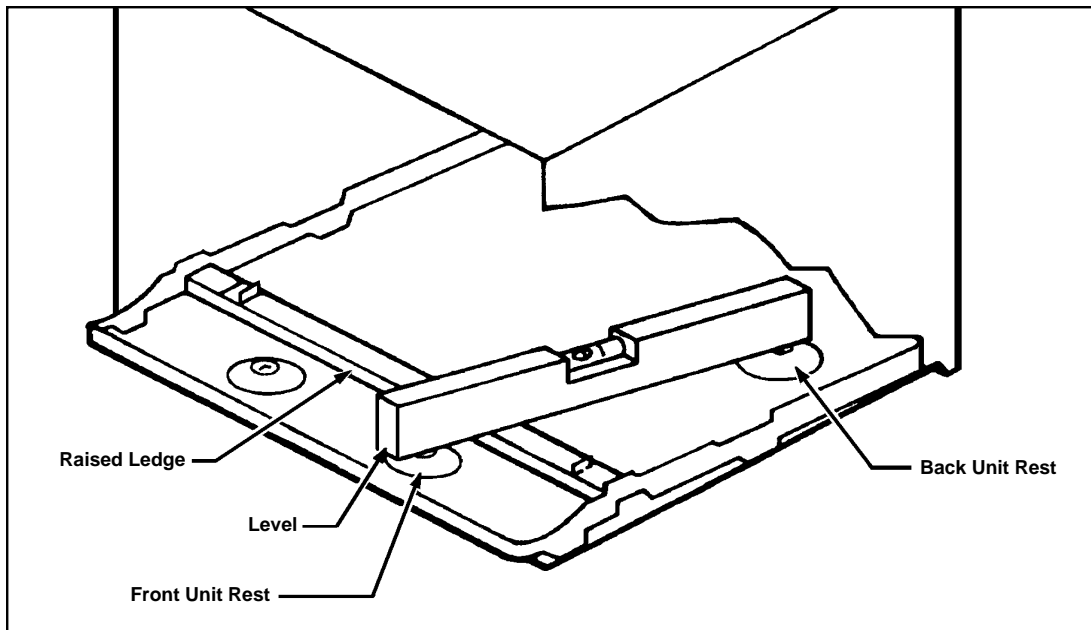

Figure 9
- STEP 4** The WSC SLEEVE must also be installed with a downward tilt toward the outside of the building. If a level is placed so that it rests on the FRONT and BACK UNIT REST as shown in Figure 9, a properly installed unit provides a 1/2 bubble slope to the outside of the building.